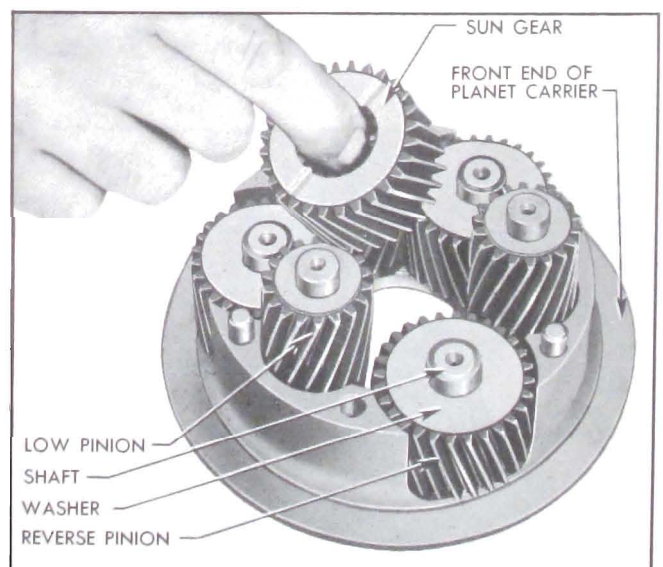

Figure 5-103—Removal of Sun Gear and Planet Pinions
4. Remove the sun gear rear thrust washer, which may be either on sun gear or stuck in rear end of carrier. Remove reverse sun gear. See Figure 5-103.
6. Remove the 3 low planet pinion assemblies, each consisting of a pinion, shaft, and bearing rollers retained at each end of pinion by steel thrust washers. See Figure 5-103. A retaining ring snapped into a groove in shaft will hold the lower thrust washer in place as shaft is tapped out of carrier. The shaft is prevented from turning in carrier by a $3/32$ " steel ball imbedded in end of shaft. Do not lose the steel ball.
2. Make sure that steel ball is embedded in each shaft to prevent turning in carrier, then install planet pinion assemblies in front end of planet carrier, using care to engage the steel balls in the notches in carrier. See Figure 5-103.